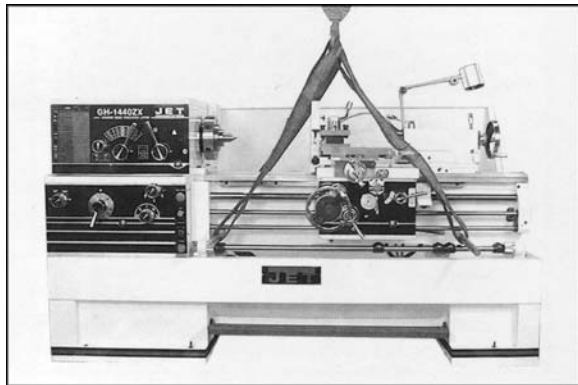

Figure 4: Lifting the lathe
6. Sling the lathe as shown in Figure 4, using steel rods or pipes of sufficient strength inserted through the holes in the bed casting. **Do not lift lathe by the spindle.** With adequate lifting equipment, slowly raise the lathe off the shipping pallet. Make sure lathe is balanced before moving.